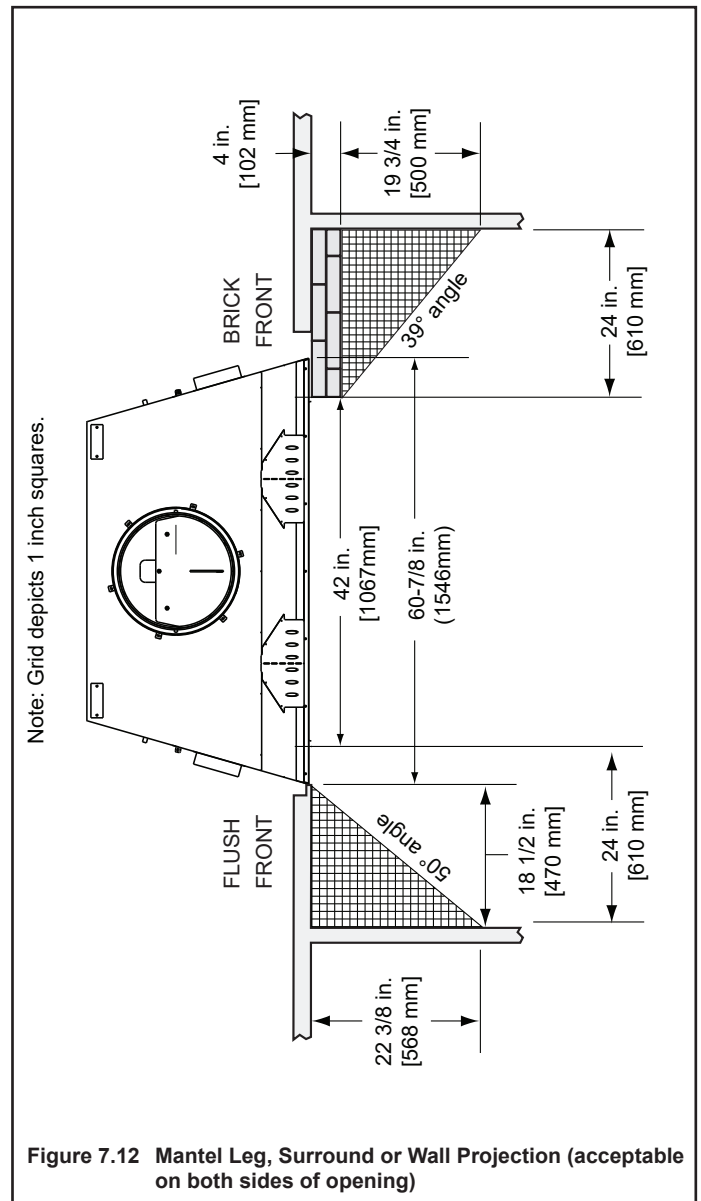

Figure 7.12 Mantle Leg, Surround or Wall Projection (acceptable on both sides of opening)
- Mantle leg, surround, stub wall, whether combustible or non-combustible, may be constructed as shown in Figure 7.12.